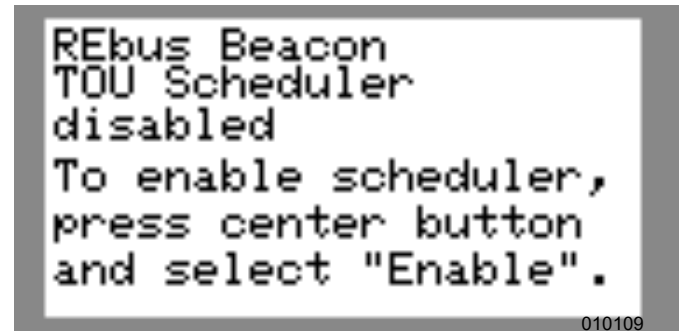

Figure 6-10. Configuring TOU Schedule (1 of 4)
- See Figure 6-10. Navigate to the Generac Beacon device page and press the center button to enter the device menu.